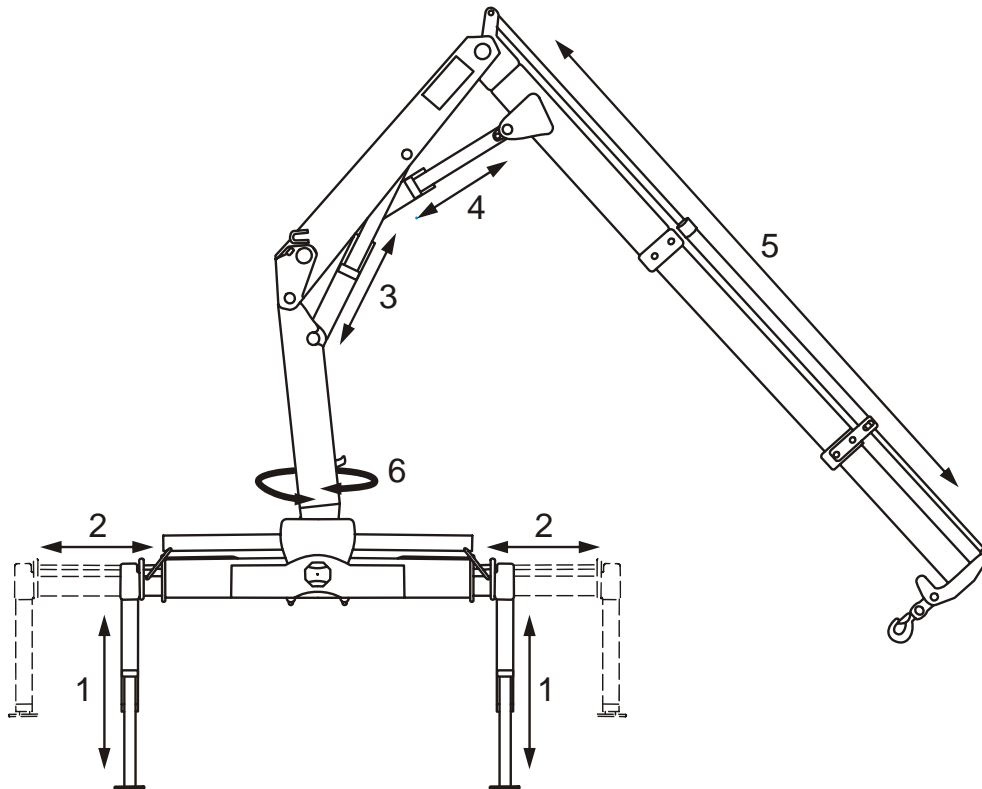

Figure 7 Bleeding Sequence
22. To bleed air from the hydraulic system after repairs, proceed as follows (refer to Figure 7):
- Operate the crane and run each hydraulic cylinder out to its end position at least twice. Refer to Figure 7 for the recommended sequence.